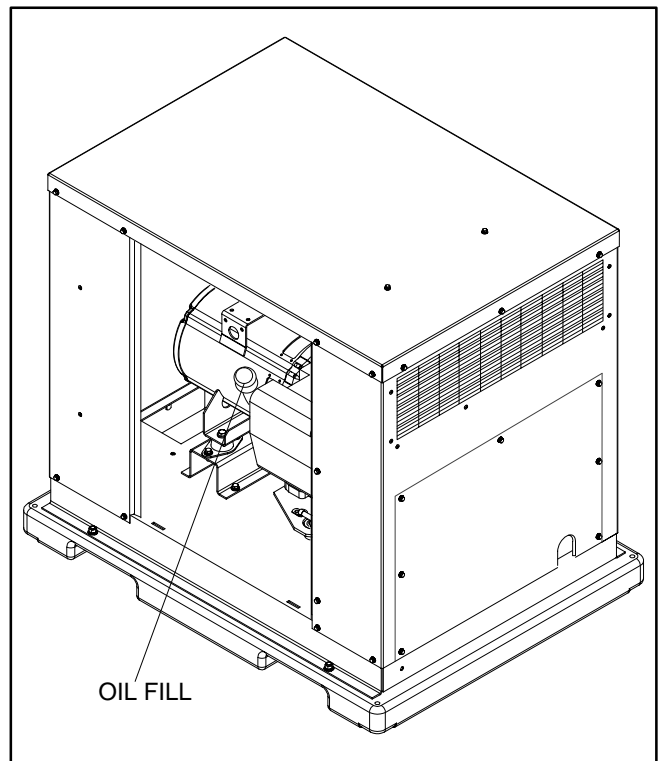

FIGURE 4-2. OIL FILL LOCATION
2. Remove the oil fill cap (see Figure 4-2), remove the hose plug, open the oil drain valve (grasp the hose near the engine, push in to stop, turn counter-clockwise to stop, and release) (see Figure 3-2), and allow all of the oil to drain from the engine.